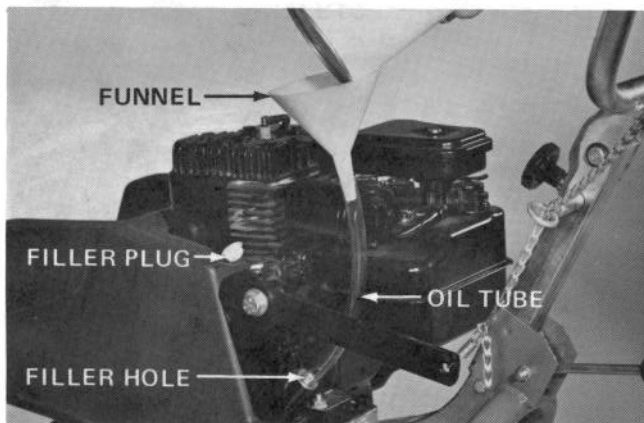

Figure 4
3. Remove filler plug from crankcase (Fig. 4).
4. Slowly, pour approximately 20 ounces (.591 l) of oil into crankcase using provided oil tube with funnel (Fig. 4). The Briggs & Stratton engine uses any high quality detergent oil having the American Petroleum Institute — API — "service classification" MS, SC, SD, or SE. Oil viscosity — weight — must be selected according to the season's ambient temperature.